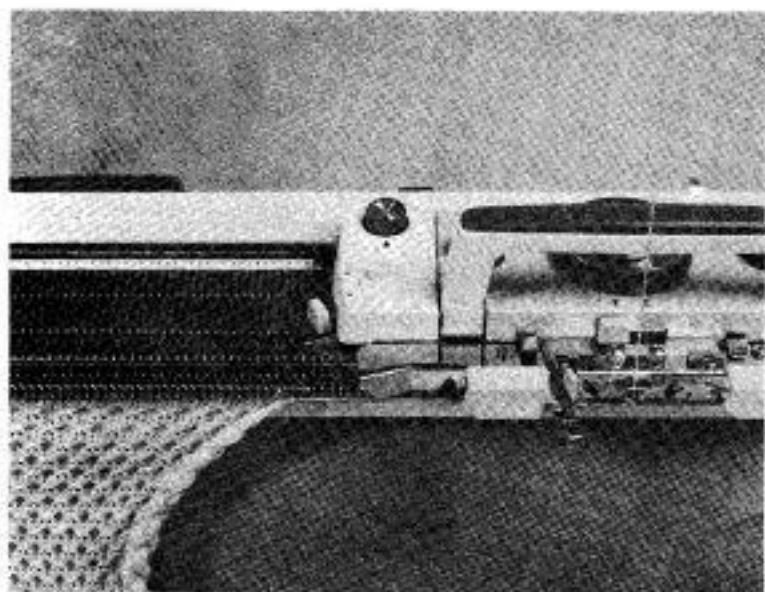

Fig. 117
* 1st row Carriage on right. Push back into Position (B) the 4th needle from the right-hand end. This needle will be that opposite No. 4 on the N.S.G.S. (Fig. 117) Knit 1 row.
3rd row Carriage on right. Push back into Position (B) the 4th needle from right end opposite No. 4 on the N.S.G.S. (Fig. 117) and knit 1 row.